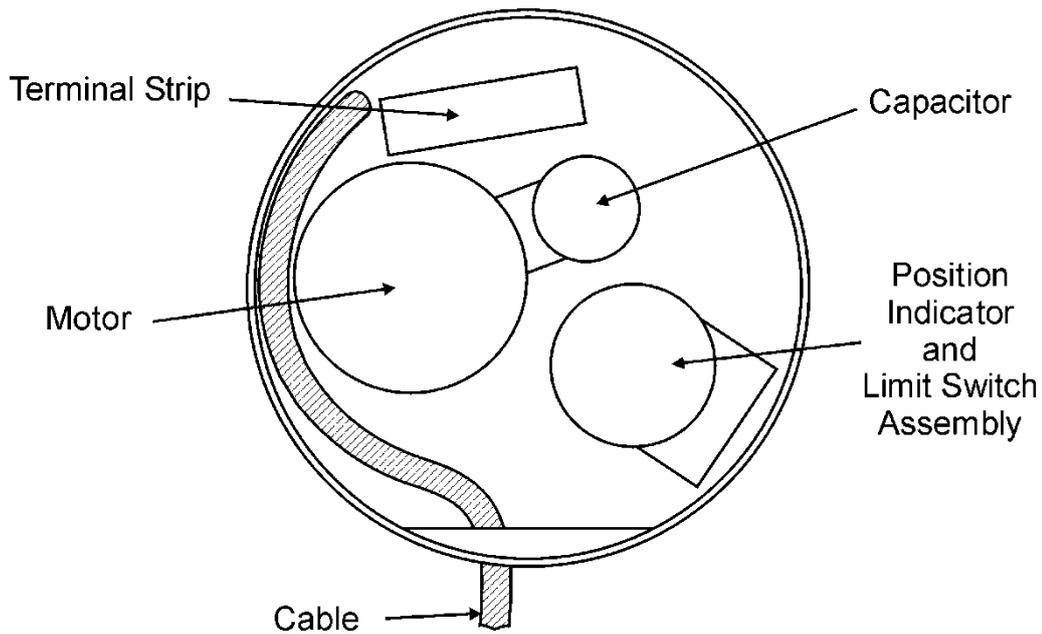

Fig 11 Actuator Internal Cable Routing
- 6 Route the wiring around the motor to the terminal strip, avoiding the actuator moving parts (refer to Fig 11 page 33).